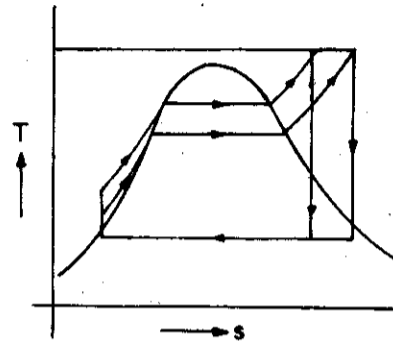

Fig. 22.5. Rankine cycle with increasing boiler pressure.
**Advantages :** 1. There is a limit to the degree of superheat due to metallurgical conditions, therefore, it is not possible to get all superheat in one stage. The inevitable effect of use of higher pressure in modern power plants is that, the saturation line is reached earlier during isentropic expansion as shown in Fig. 22.5, and, therefore, most of the turbine stages operate in saturated region which is highly undesirable. There is heavy blade erosion due to the impact of water particles carried with the steam. Therefore, the reheating is essential in high pressure modern power plants to increase the life of the plant.